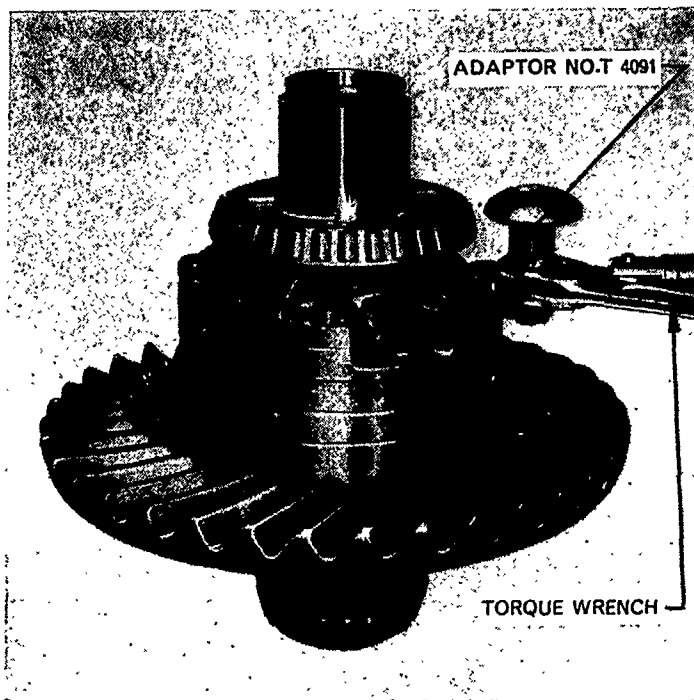

Figure 63
3. Tighten the retaining bolts to the specified torque. (See Specification Section, Chapter 3.) On assemblies with a differential lock use special adaptor, Tool No. T4091, or similar crow foot adaptor, to enable a torque wrench to be used with the bearing in position, Figure 63.